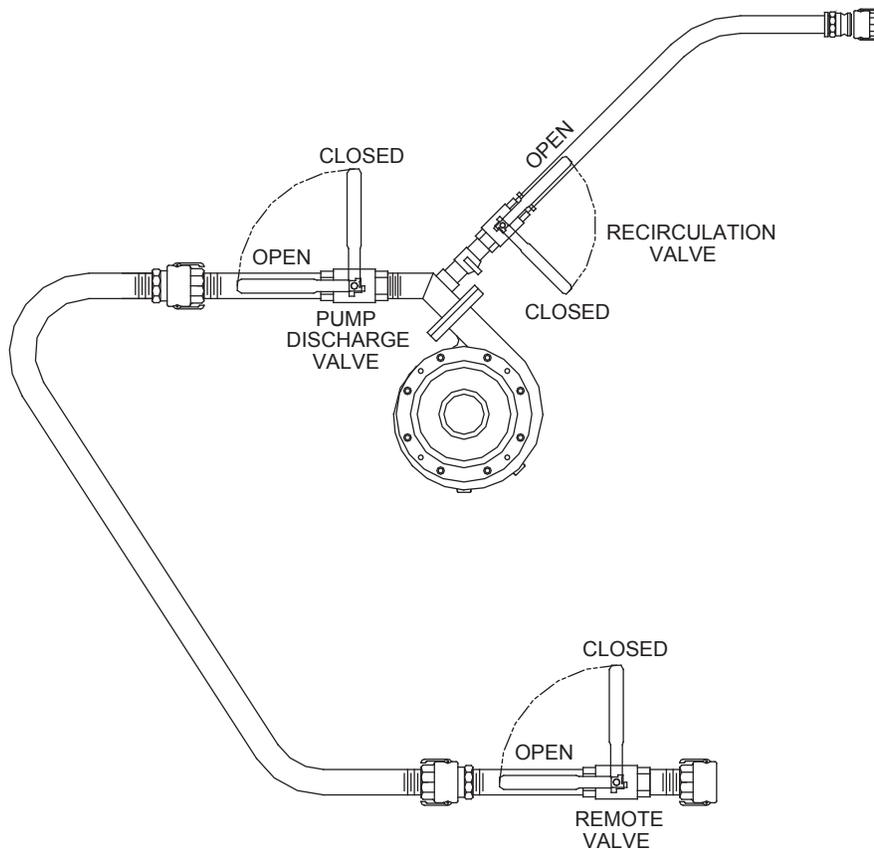

Figure 2 – Valve Operation (Base Unit)
1. Discharge Hoses: Discharge hoses are available in 50 ft (15.2 m) and 100 ft (30.5 m) lengths up to a total of 150 ft (45.7 m). Hose of a greater length may adversely affect the discharge distance and the discharge time of the HydroSeeder®. All connections are cam-lock, quick-operating fittings, including the connection to the end of the discharge piping. A nozzle is connected to the end of the hose, next to the remote discharge valve. Once the hose is connected, the HydroSeeder® is ready to operate. Flow through the hose and the nozzle is controlled by the remote discharge valve. When using this valve, the recirculation valve on the HydroSeeder® **MUST BE OPEN** to allow flow at times when the remote valve is closed. (See Figure 2 on page 10.)
The base HydroSeeder® is equipped with three independently operated ball valves to control slurry flow. See Figure 2 below. The first valve is the recirculation valve. An open recirculation valve allows flow back into the tank. The second valve is the pump discharge valve. An open pump discharge valve allows slurry to flow through the discharge hose. The third valve, located at the end of the discharge hose, is the remote valve. An open remote valve allows discharge of the slurry onto the area being covered.